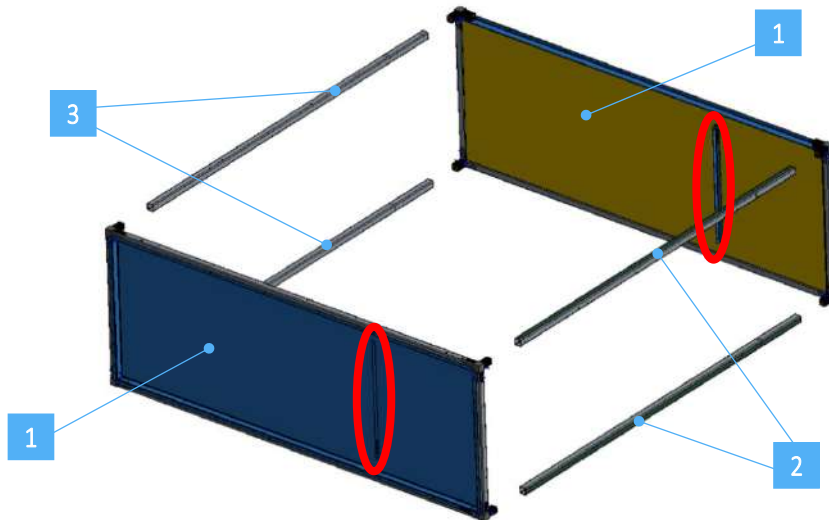

Fig. 6 *Tubes assembly.*
- 3 Insert the two bottom side panels [6] (PN 73-00054-01) inside the tubes and fix them using the M4 self-tapping screws and M5 screws supplied, as shown in figure 6.